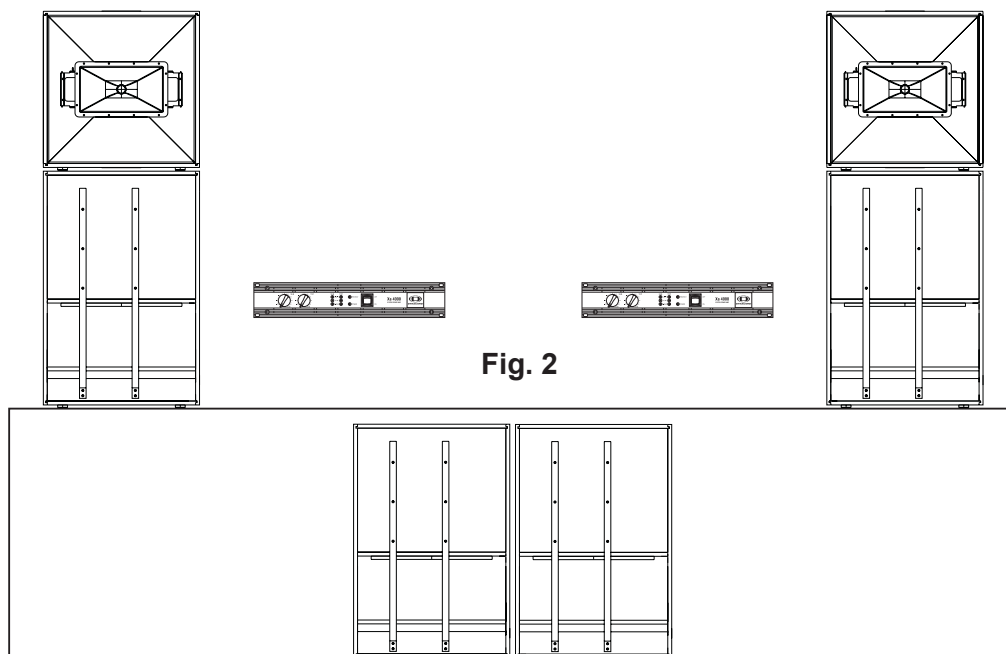
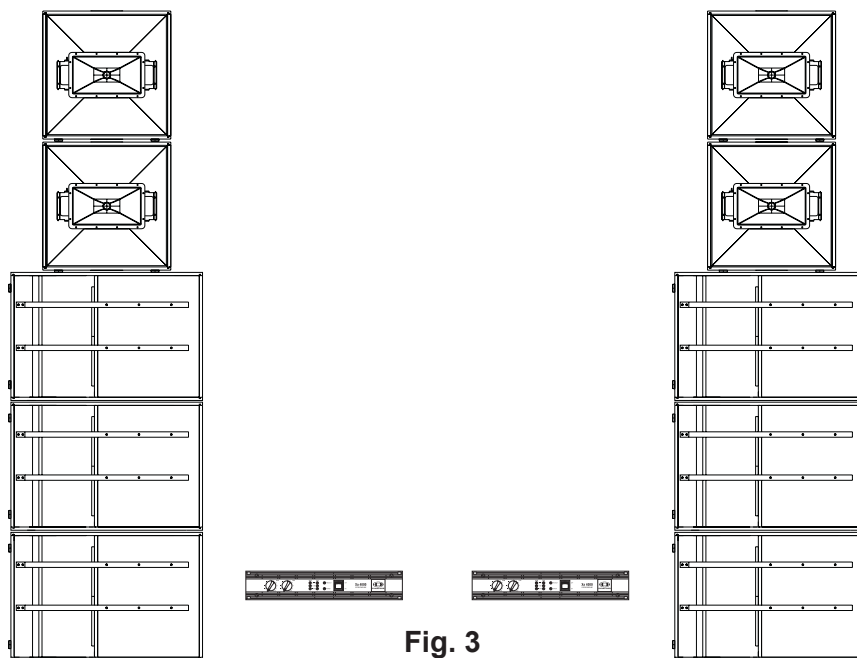
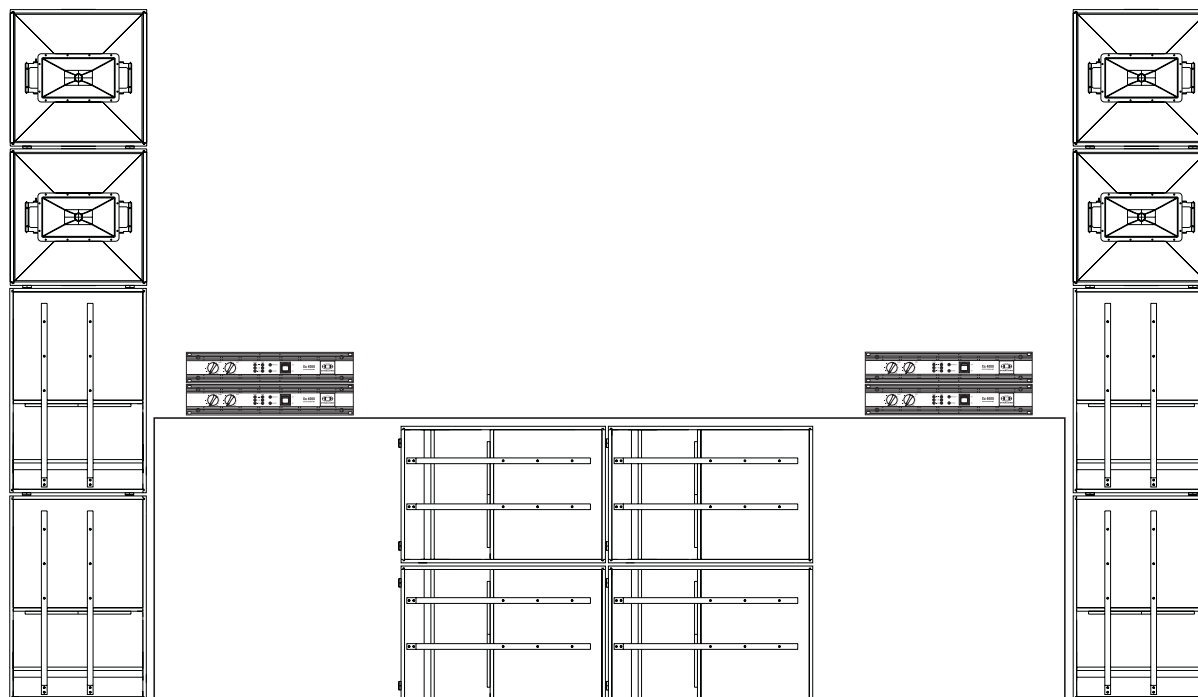

Fig. 2
Fig. 3
Fig. 4
**Fig. 2** shows a variation of the standard setup that is advantageous for wider stages. Whenever placing the loudspeaker cabinets on stage is possible, in most cases the use of a single FX 20 woofer to elevate the FX 12 Mid/Hi cabinet in the correct height on top of the woofer is sufficient. The remaining two woofer cabinets are configured as center cluster in the middle and in front of or under the stage providing homogeneous coverage of the audience area. In addition to that extra degree of homogeneous coverage this left-center-right setup allows achieving higher SPL in the low-frequency range.
Fig. 3 shows the possibility of how to achieve even higher SPL through employing an additional FX 20 woofer and Mid/Hi cabinets on each side of the stage. Additional cabinets are simply connected in parallel to the existing speaker systems. Of course, configuring woofers in a left-center-right setup – as outlines in Fig. 2 – is possible without problem. Stacking the Mid/Hi cabinets on top of each other almost doubles coverage, without the drawback of too high acoustic output in the proximity of the stage. Using the “stack & splay” technique – turning the stacked Mid/Hi cabinets so that they aim at slightly different angles – even improves coverage of the audience area.
Fig. 4 shows a setup consisting of a complete Xa standard installation per side, which is especially suitable for major clubs and large festival tents up to a size of approximately 3000 sqm. If needed, this configuration allows expanding each Xa system through adding additional loudspeaker cabinets (please refer to Fig. 3). The left-center-right setup delivers noticeably more SPL in the low-frequency range and most of all provides truly homogeneous dispersion and coverage in the audience area, without the annoyance of interference. This configuration is particularly recommendable for wide stages.